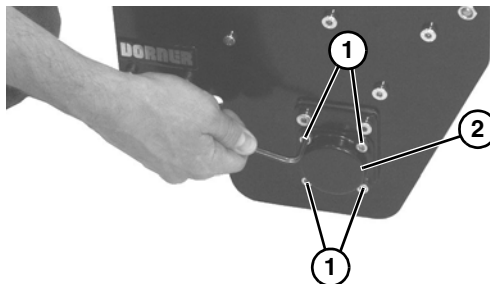

Figure 42
6. On the non-drive side, remove four socket head screws (**Figure 42, item 1**) and cover (**Figure 42, item 2**).